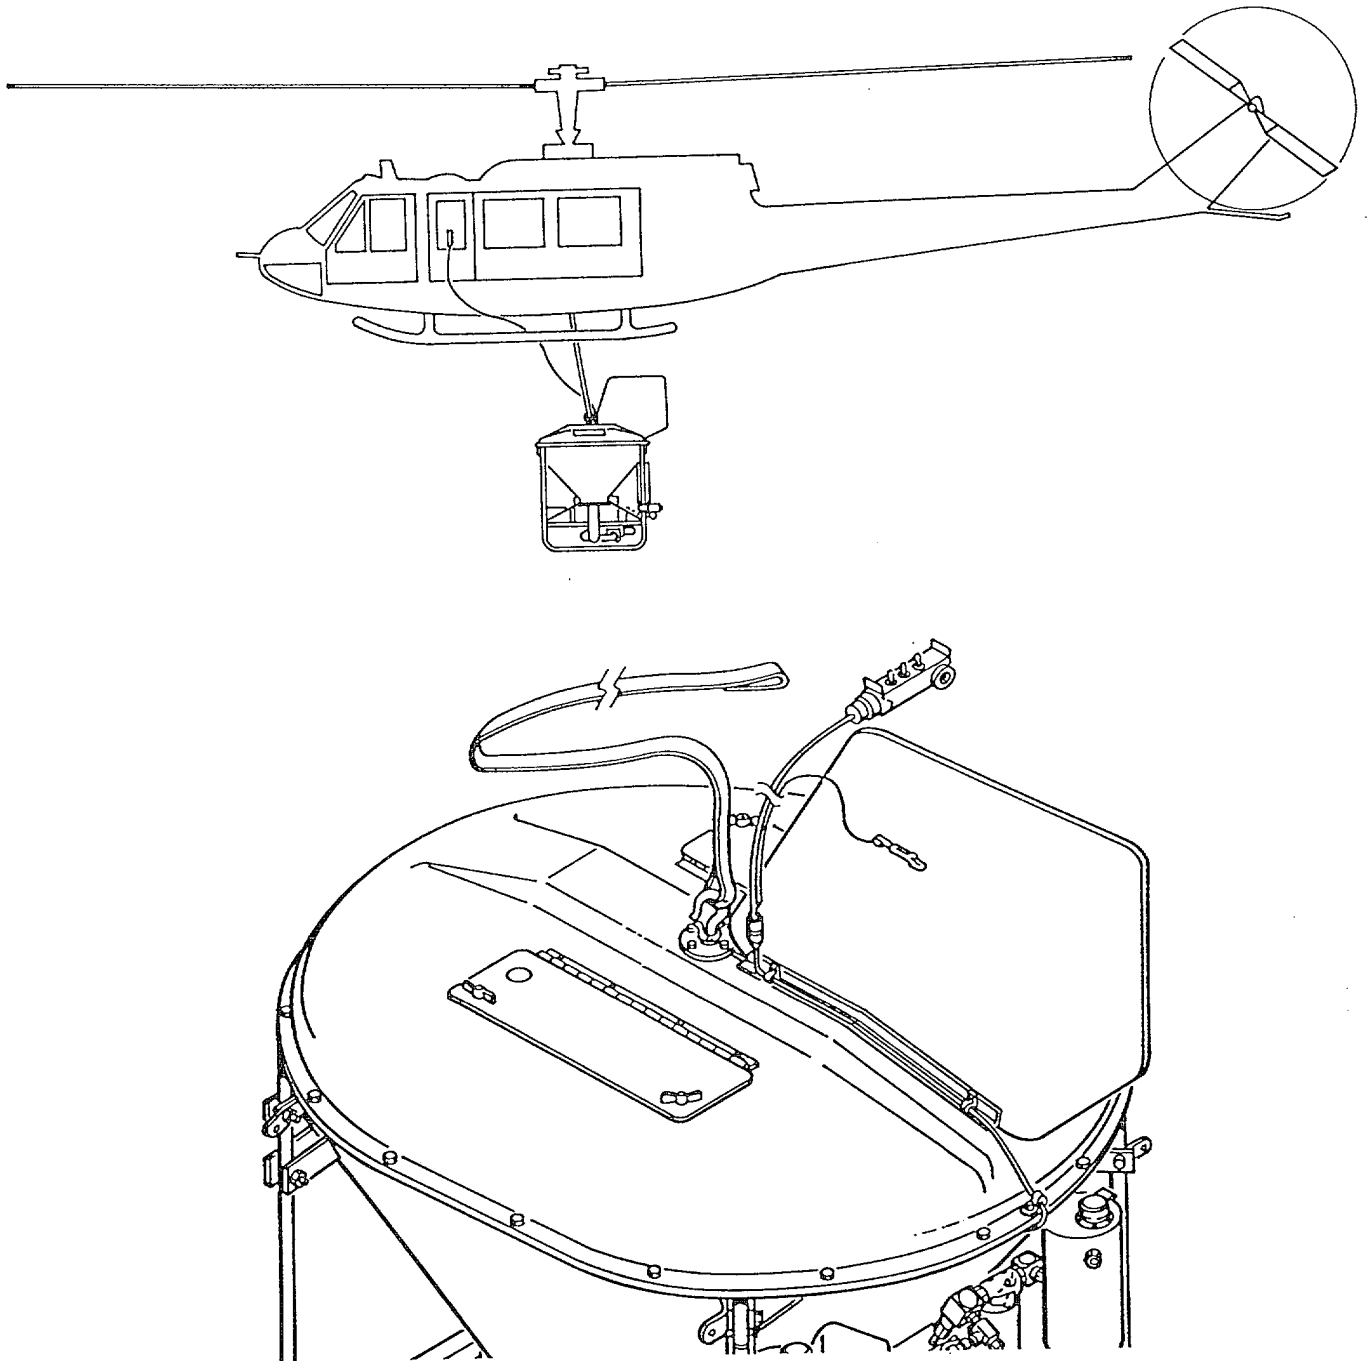

Figure 2-14. Helicopter/Lifting Strap Hookup
- c. Operator: Attach lifting strap to helicopter cargo hook as shown in figure 2-14.
- (1) Step on side support of bucket frame on non-skid strip, forward side of bucket.
- (2) Grab lifting strap.
- (3) Open hook keeper assembly and insert cargo loop.
- (5) Attach hand control assembly cable to PDU wiring harness as shown in figure 2-14.